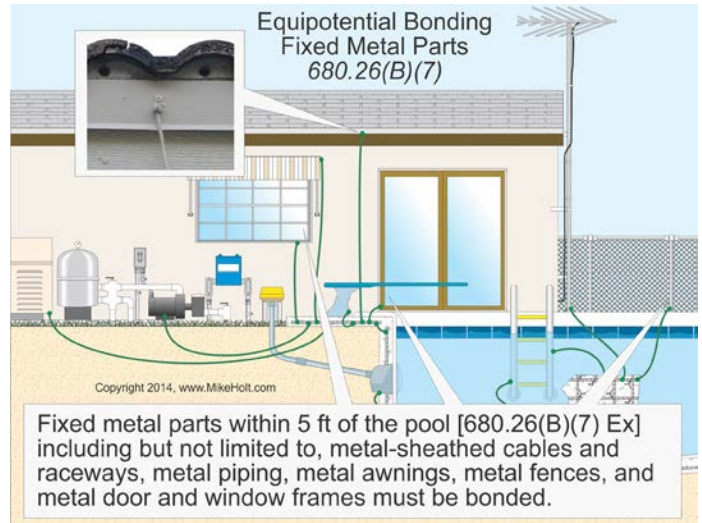

Figure 680-46
(7) Fixed Metal Parts. All fixed metal parts must be bonded to the equipotential grid, including but not limited to, metal-sheathed cables and raceways, metal piping, metal awnings, metal fences, and metal door and window frames. *Figure 680-46*